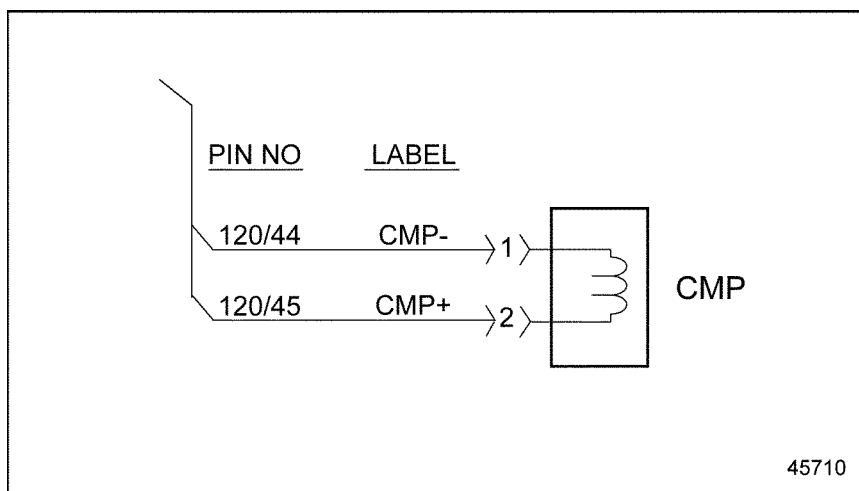

Figure 34-2 MCM — Camshaft Position Sensor Schematic
2. Measure the resistance between pin 1 of the CMP Sensor and ground. See Figure 34-2.